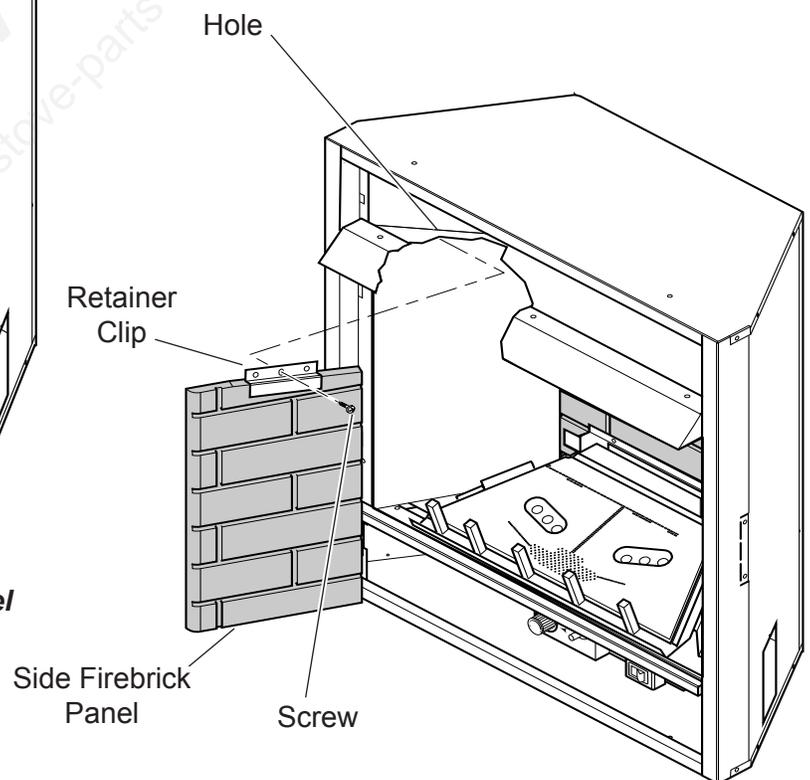

Figure 5 - Installing Side Firebrick Panel
5. Place one of the side firebrick panels in cabinet. Line up the hole in the retainer clip with the hole inside the firebox. Using Phillips screwdriver, attach the retainer bracket to inside of firebox. See Figure 5.